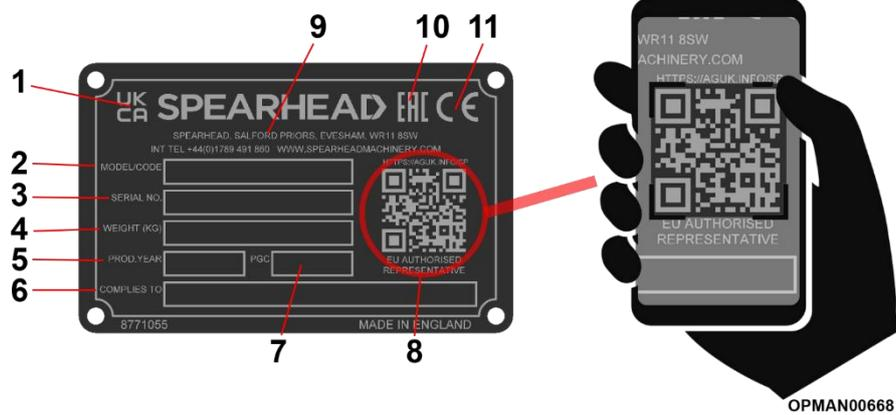

Figure 3 – Serial Plate
Each Saw Head is equipped with a serial plate; see Figure 3 that includes the following data in this order:
By utilising a smart phone and scanning the Authorised Representative QR scan code found on the right-hand side of the serial plate (ref 8, Figure 3) using a suitable QR scanning App, you can find details for Spearhead Machinery authorised representatives for its various territories.